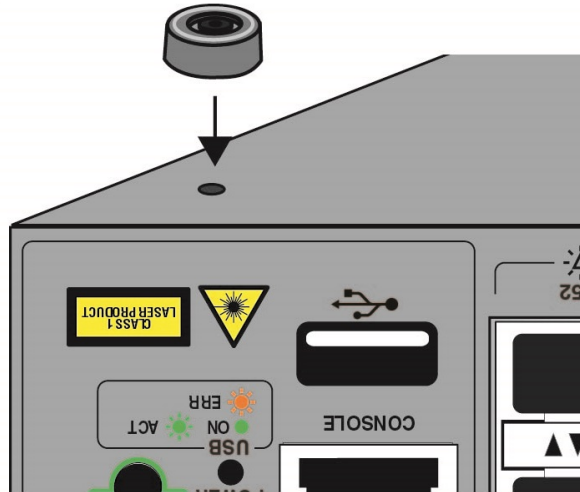

Figure 81. Placing the Bumper Foot on a Base Corner Hole
- Place the bumper foot onto one of the holes in the base of the switch. Refer to Figure 81.